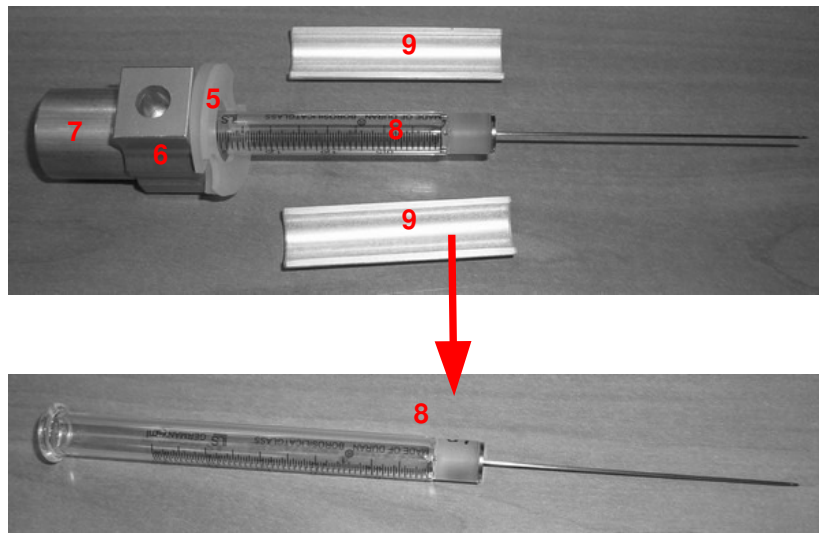

Figure 112: Syringe warmer assembly disassembling_2
4. The insulating gasket (number 5 in **Figure 112**), the syringe holder (number 6 in **Figure 112**), the upper spacer (number 7 in **Figure 112**) and lower spacers (number 9 in **Figure 112**, not present in the 5ml syringe) must be extracted from the syringe barrel (number 8 in **Figure 112**). Pull them out from the needle side and do it very gently without forcing. Please note that all of the elements should be separated naturally during the syringe barrel extraction from the heating body.
4. The insulating gasket (number 5 in **Figure 112**), the syringe holder (number 6 in **Figure 112**), the upper spacer (number 7 in **Figure 112**) and lower spacers (number 9 in **Figure 112**) must be extracted from the syringe barrel (number 8 in **Figure 112**). Pull them out from the needle side and do it very gently without any forcing. Please note that all of the elements should be separated naturally during the extraction of the syringe barrel from the heating body.
17. The insulating gasket (number 5 in **Figure 112**), the syringe holder (number 6 in **Figure 112**), the upper spacer (number 7 in **Figure 112**) and lower spacers (number 9 in **Figure 112**) must be extracted from the syringe barrel (number 8 in **Figure 112**). Pull them out from the needle side and do it very gently without any forcing. Please note that all of the elements should be separated naturally during the extraction of the syringe barrel from the heating body.